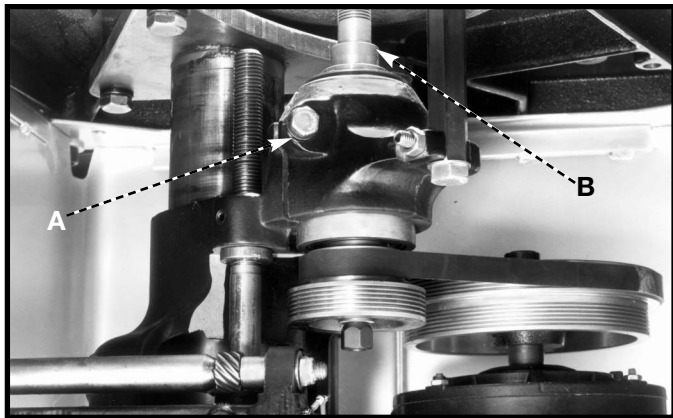

Fig. 40
1. **IMPORTANT:** When replacing the spindle cartridge (B) Fig. 40, loosen the bolt (A). Remove the spindle cartridge. Replace with a new spindle cartridge. Tighten the bolt (A) **ONLY** 7 to 10 foot pounds.